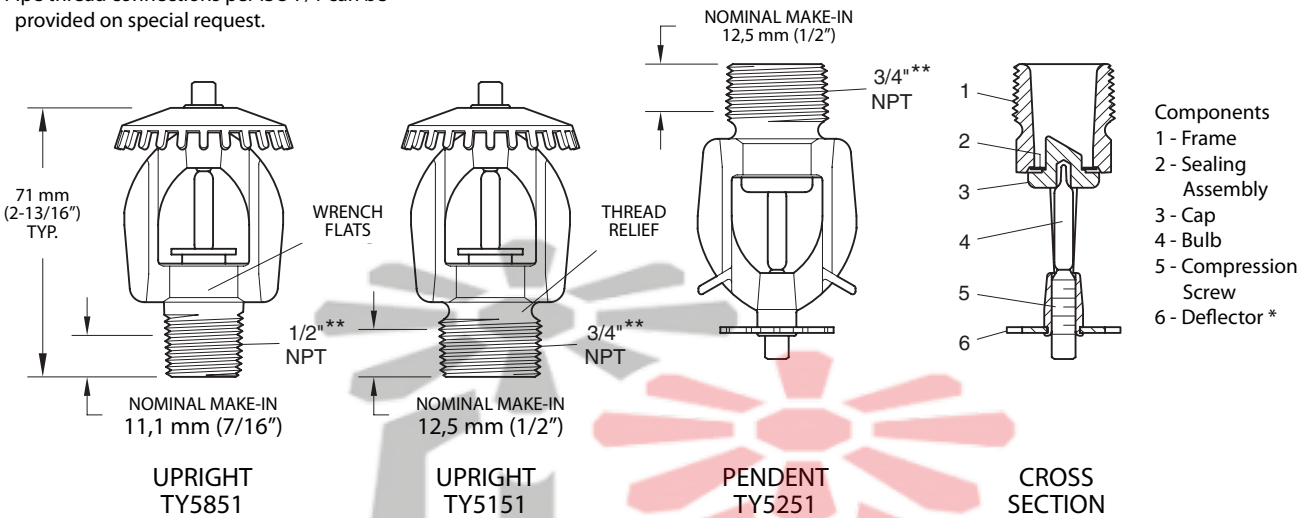

FIGURE 1
The 160 K-factor, Series ELO-231B, Standard Response, Standard Coverage, Upright and Pendent Sprinklers (Ref. Figure 1) are automatic sprinklers of the frangible bulb type. They are “standard response - spray sprinklers” that produce a hemispherical water distribution pattern below the deflector.
Step 3. Tighten the sprinkler into the sprinkler fitting using only the W-Type 3 Sprinkler Wrench (Ref. Figure 2), except that a 200 or 250 mm (8 or 10\") adjustable Crescent wrench is to be used for wax coated sprinklers. With reference to Figure 1, the W-Type 3 Sprinkler Wrench or the adjustable Crescent wrench, as applicable is to be applied to the wrench flats.